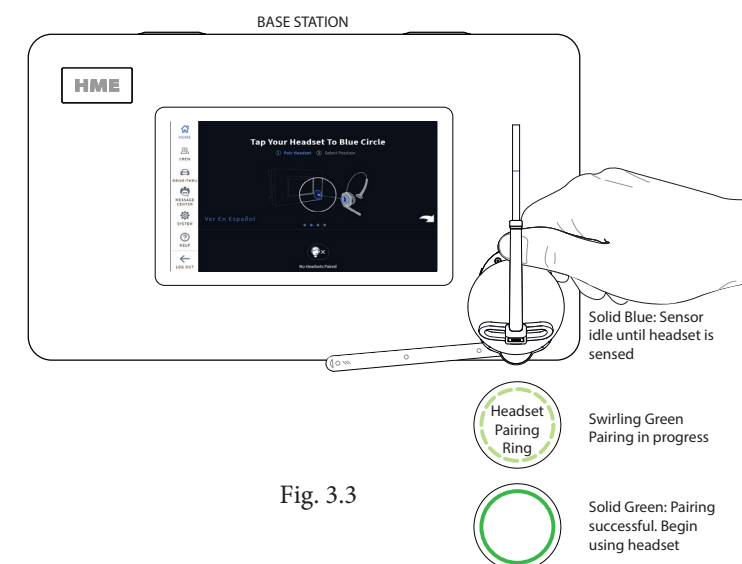

Fig. 3.3
2. Pair the headset by holding the headset's keypad side against the Headset Pairing Ring (solid blue circle) on the base station (see Fig. 3.3). Pairing begins automatically as soon as the headset is sensed.